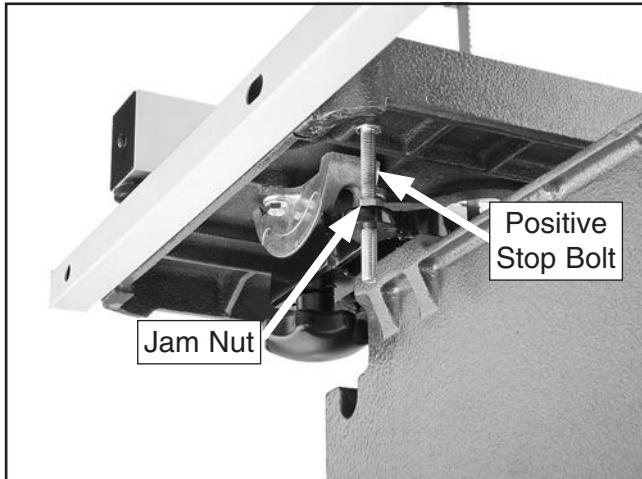

Figure 34. Positive stop bolt set so table is 90° to the blade (viewed from behind the table).
To tilt the table to the left, the positive stop bolt (see **Figure 34**) must be lowered, then re-adjusted after the table is returned to 0°.
6. Raise or lower the positive stop bolt until the table is perpendicular to the side of the blade, then re-tighten the jam nut (see **Figure 34**) against the casting to secure the setting.